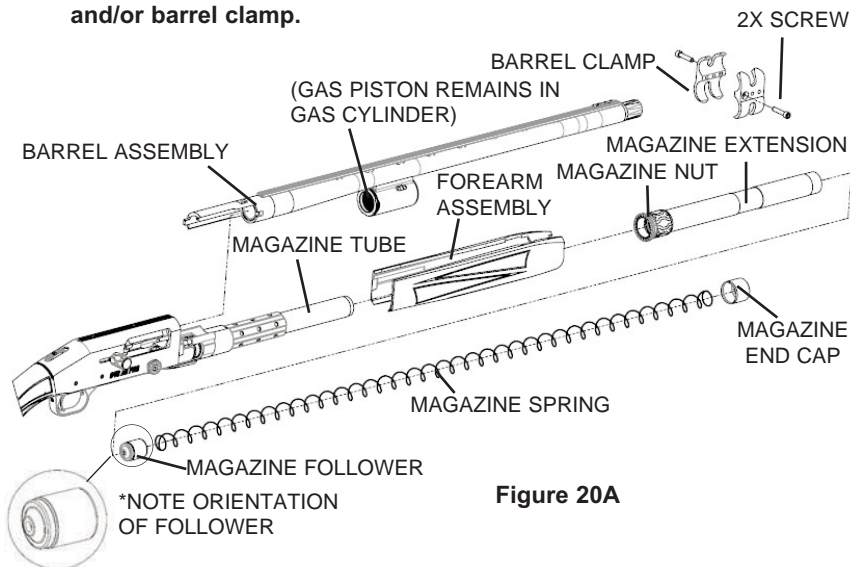

Figure 20A
The action assembly of your model 940™ may be fitted with a magazine extension and a magazine nut. If this resembles your model as shown in Figure 20A, follow the procedure below for barrel re-assembly.
5. Install the magazine follower into the magazine extension. Note the proper orientation of the magazine follower (Figure 20A).